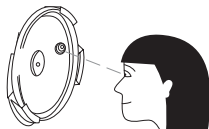

Fig. 9
**1. Before use:** please clean the pressure cooker, add water and heat it for half an hour before using it for the first time, to eliminate any kind of odor. Make sure that the safety valve, exhaust pipe and pressure regulating weight are not obstructed and make sure that the silicone gasket is put on the lid. (Fig.9)